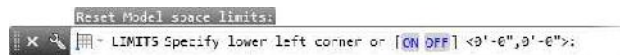

FIGURE 3.8 : The Command window after starting the LIMITS command
1. Make sure the Command window displays the Type a command prompt; then type **LIMITS**.␣. Notice how the command-line interface appears, as shown in Figure 3.8.